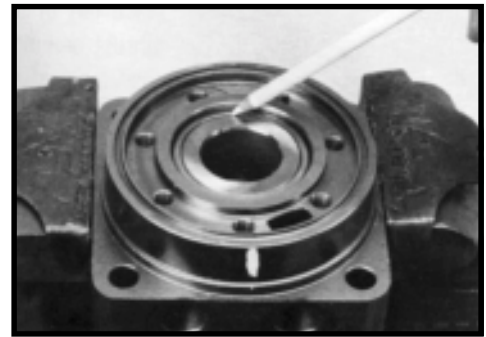

Figure 48
NOTE: The coupling shaft (12) will be flush or just below the housing wear plate surface on Small Frame, Series TB, TE & TJ Torqlinks™ when properly seated while the coupling shaft (12) on Large Frame, Series TF, TG, or TH Torqlinks™ will be approximately .10 inch (2.54 mm) below the housing wear plate surface to allow the assembly of thrust bearing (11). The coupling shaft must rotate smoothly on the thrust bearing package. SEE FIGURE 48.